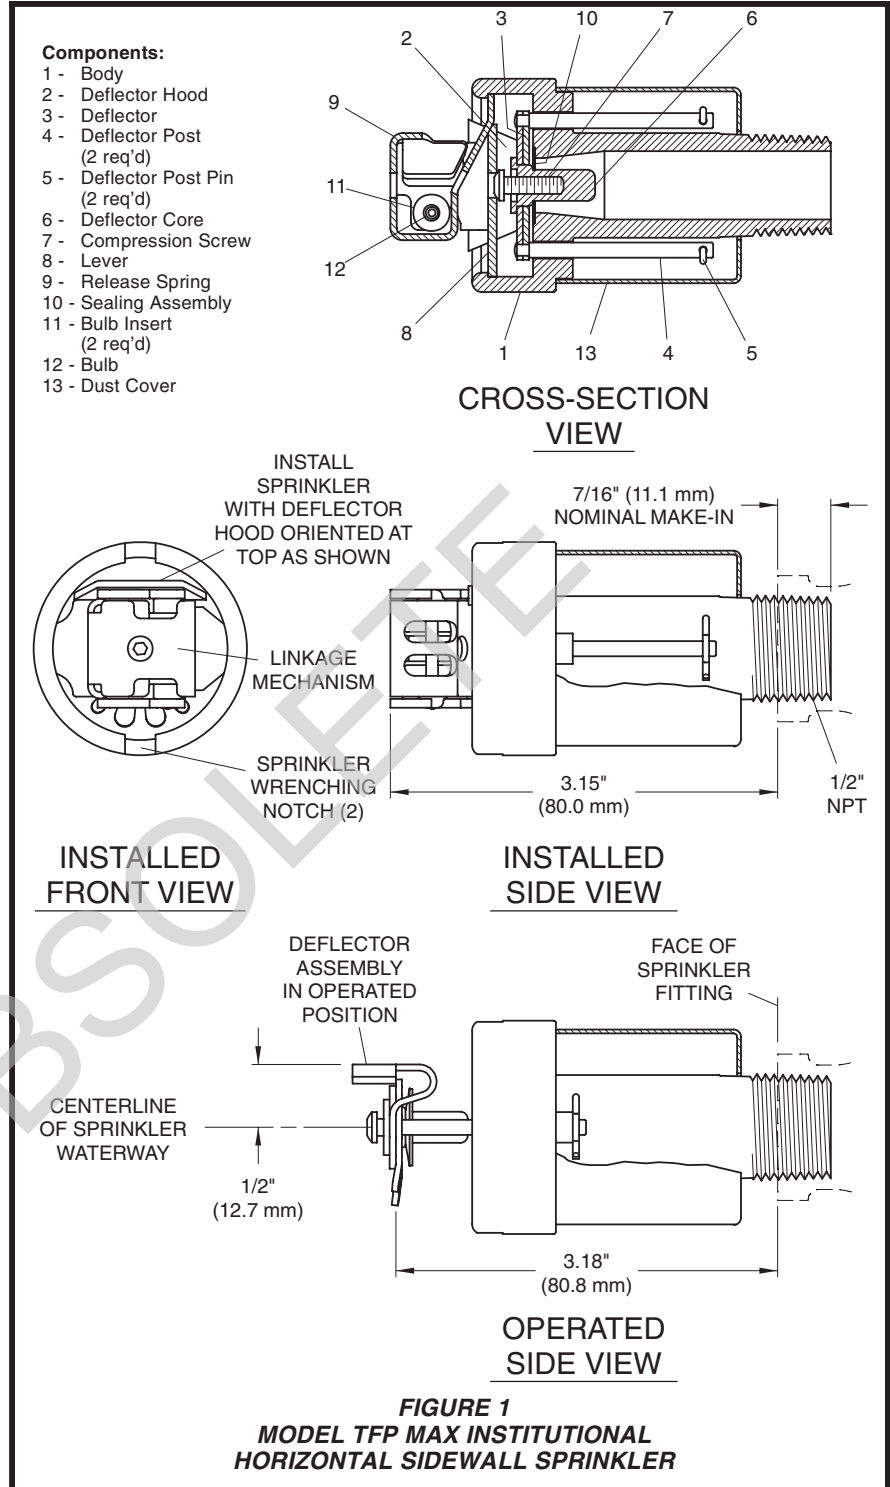

FIGURE 1
Step 1. The TFP MAX Sprinklers must be installed horizontally with the centerline of their waterway perpendicular to the back wall surface, and the Deflector must be located with the top towards the ceiling (Ref. Figure 1).
Step 3. Wrench tighten the Sprinkler using only the Model 1509-3 Sprinkler Wrench (Ref. Fig. 5). The wrenching teeth of the Sprinkler Wrench are to be applied to the sprinkler wrenching notch areas (Ref. Fig. 1).